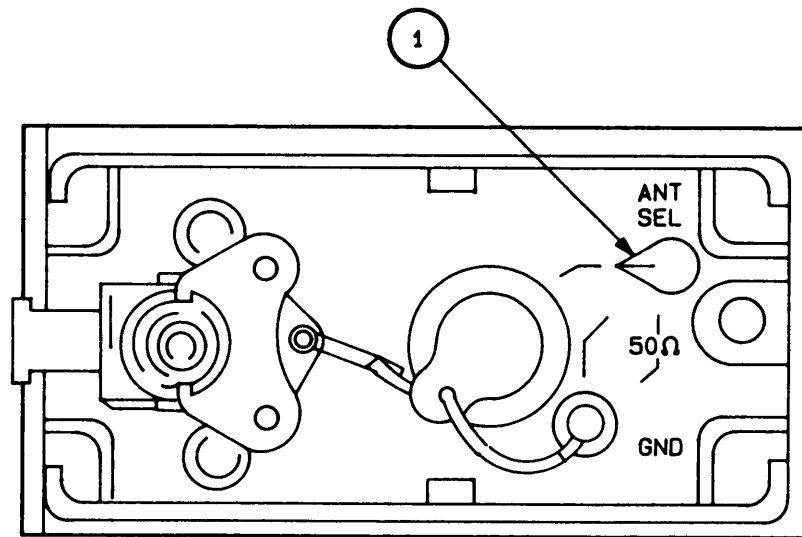

Figure 3-3. Amplifier/Coupler Controls and Indicators
**AMPLIFIER/COUPLER CONTROLS AND INDICATORS, fig 3-3**